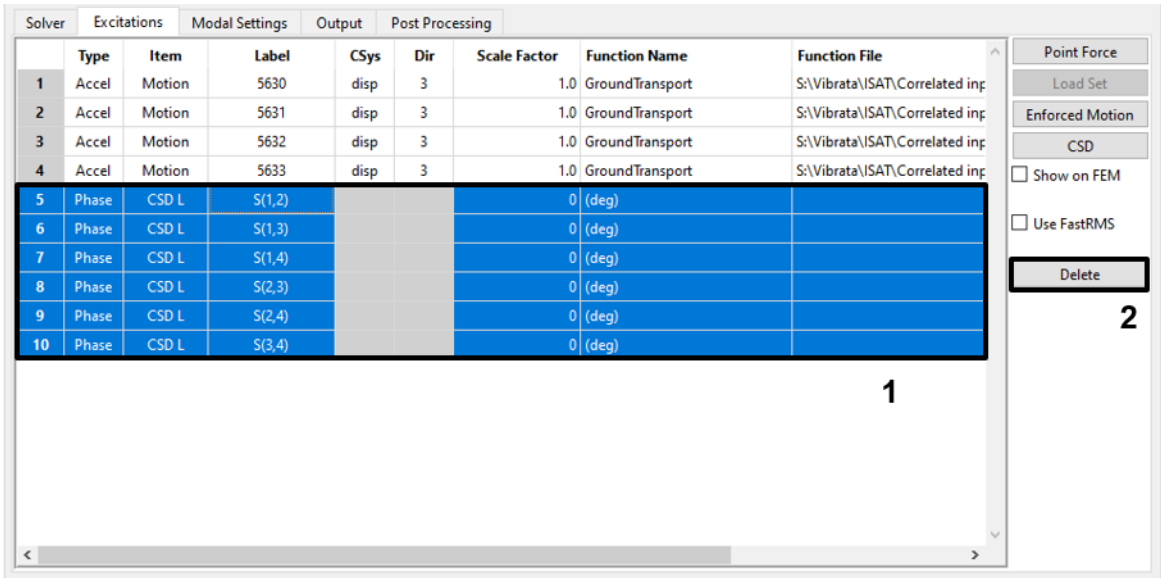

Figure 4-54. Delete the automatic CSD entries.
- Note that 0-phase CSD functions have been defined automatically to correlate these excitations. Ordinarily that is exactly what we want, but here we want to compare correlated and uncorrelated results, and we also want to illustrate how to use the CSD definition dialog. Therefore, delete these CSD functions (Figure 4-54). We will recreate them manually for the event in section 4.3.4.